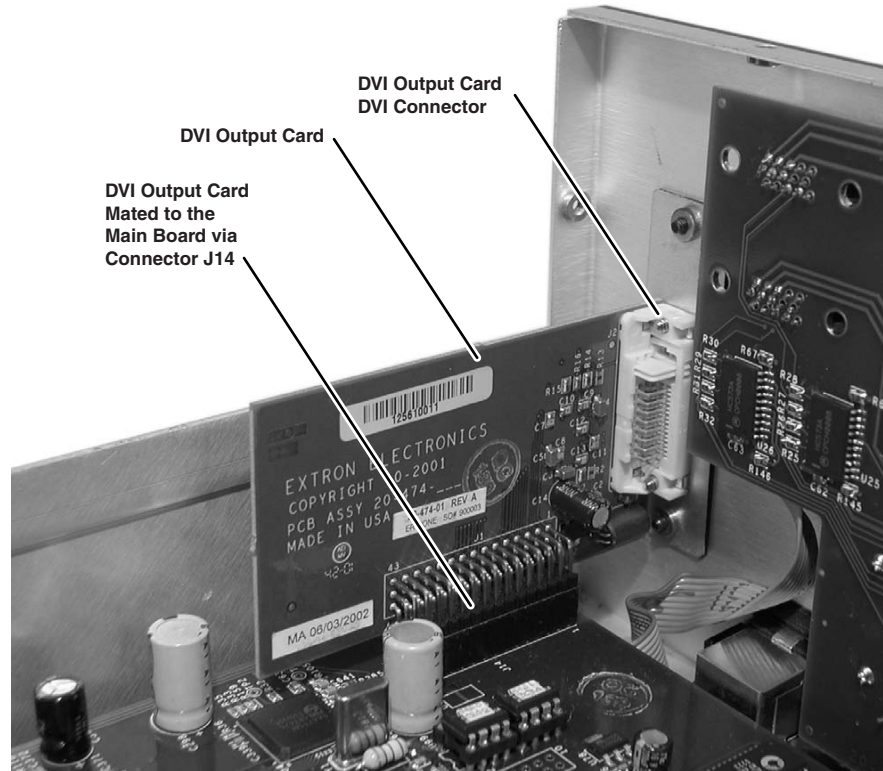

Figure 7-3 — Output DVI board installation
5. Carefully mate the 45-pin connector on the DVI output board with connector J14 on the main circuit board (figure 7-3).